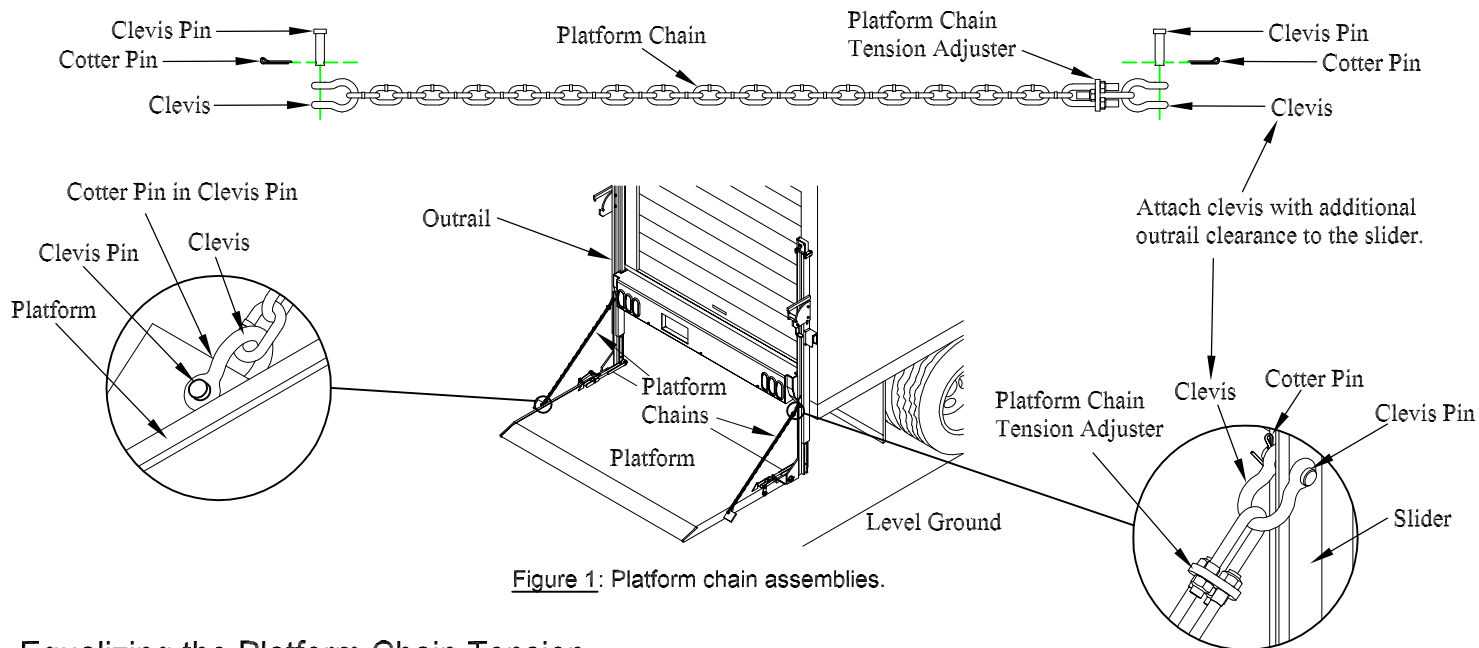

Figure 1: Platform chain assemblies.
2. **Attach** the new chain assemblies to the slider and platform using the hardware provided (Figure 1).